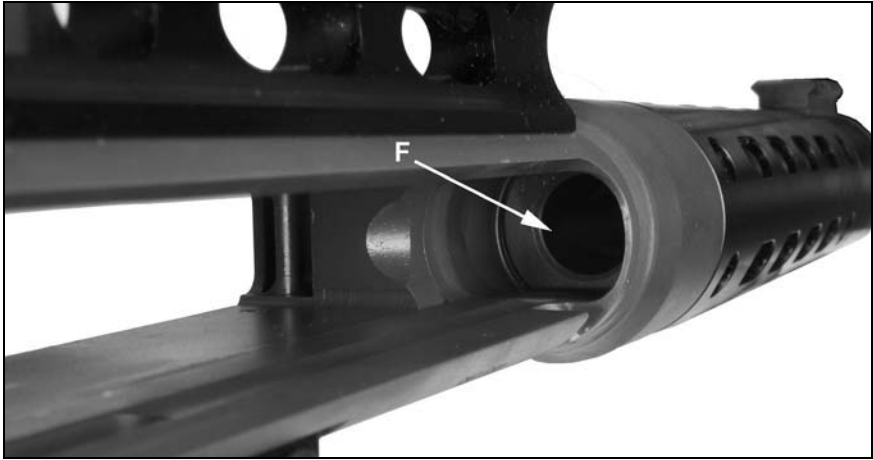

Figure 21
5. Look into the receiver through the ejection port and verify that there is no cartridge in the chamber (F). See figure 21.